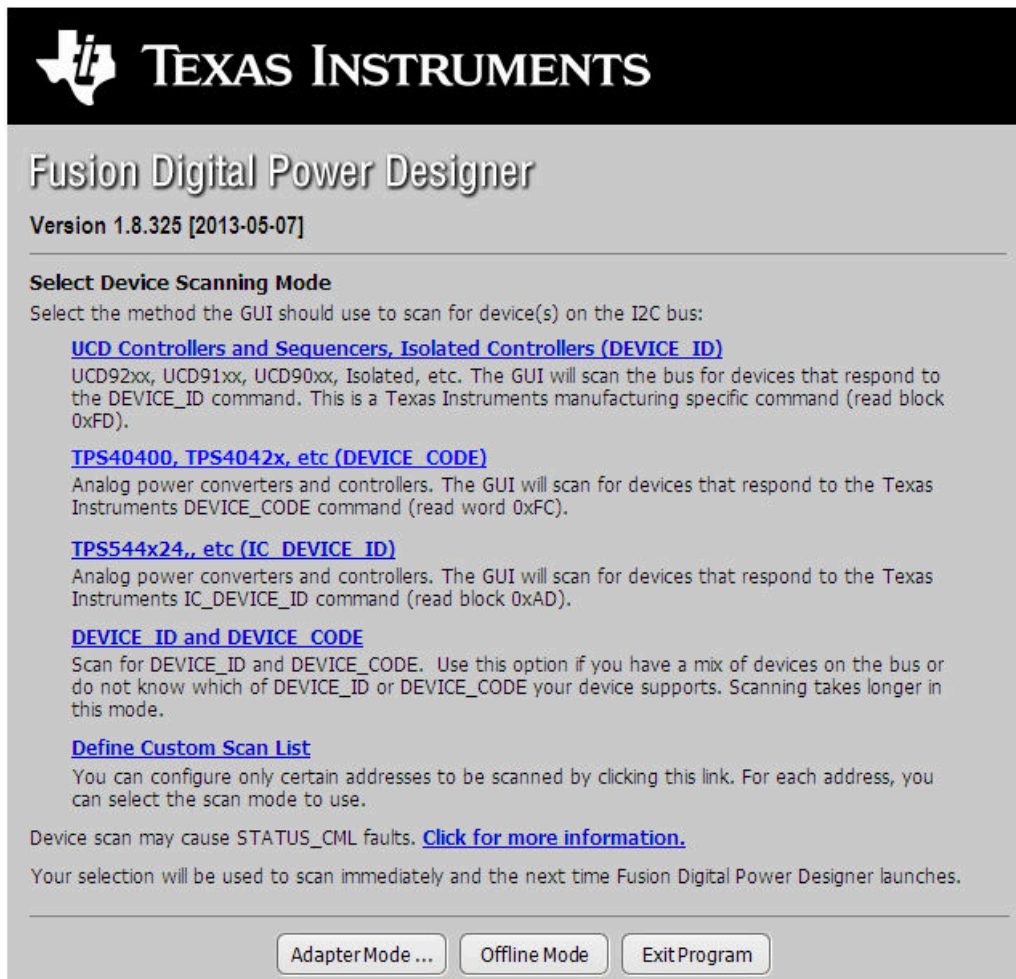

Figure 7-1. Select Device Scanning Mode
9. Double click on the *TPS40400, TPS4042x, ect (DEVICE CODE)* from the *Select Device Scanning Mode* window as shown in Figure 7-1.